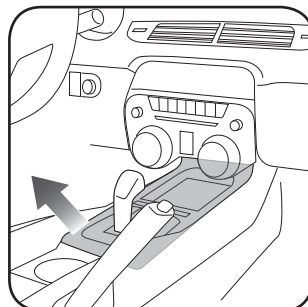

Fig. 1.2
2. Pry upward and remove the center console trim. Unclip the center console wiring harnesses and remove it. (Fig. 1.2)